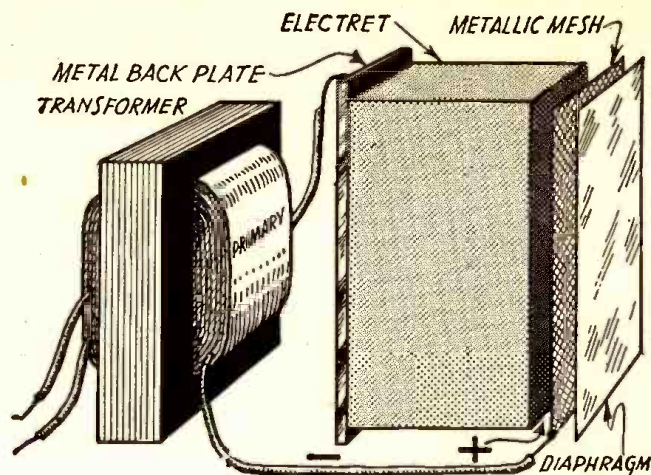

Fig. 2, left—Standard method of making wax electrets. Fig. 5, above—The electret-activated microphone.
J. D. Stranathan of the University of Kansas in 1939. (See Fig. 2.) It is better than the Adams' process because it enables the experimenter to utilize an oil bath to extend the time required to charge and cool the wax for as many as 24 days. However, it would be beyond the means of many experimenters because it necessitates the use of a resistance thermometer, a bridge with a continuously variable galvanometer contact, a photo cell, a relay system, and a field of strength of approximately 8000 volts per centimeter.